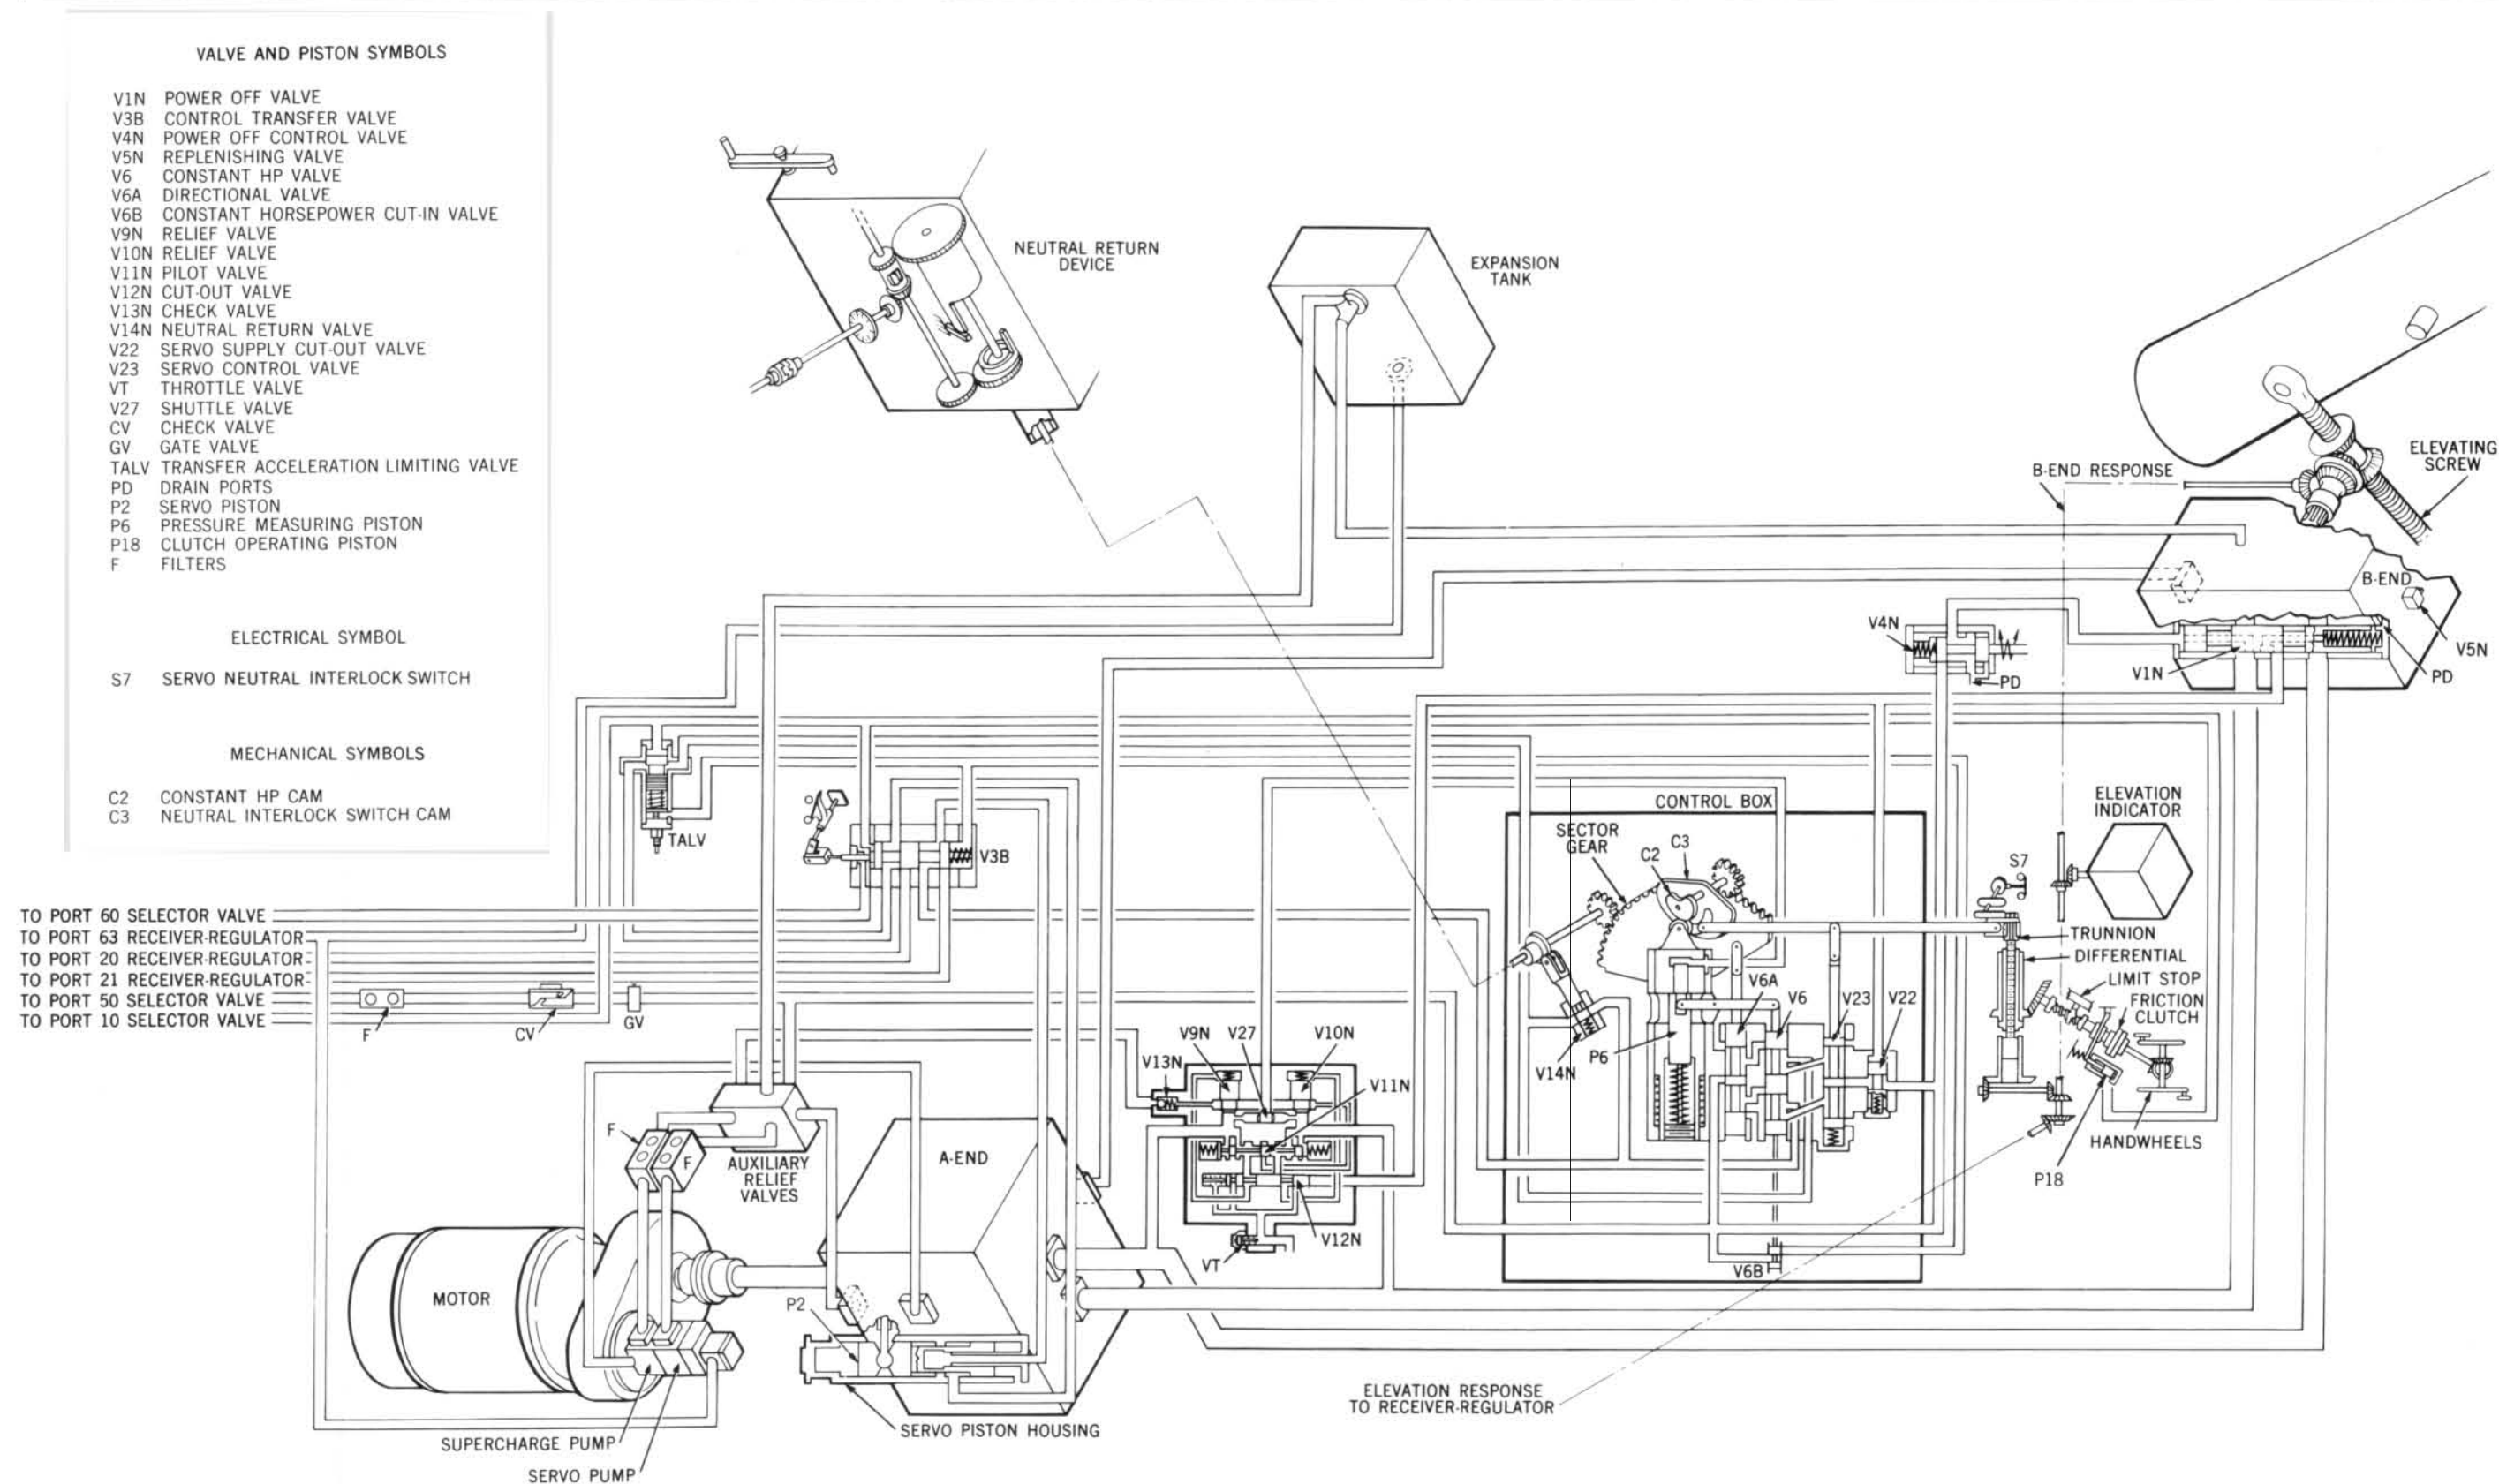

Figure 5-24. Elevating Gear Transmission Control Diagram.
1. V4N (fig. 5-24) is moved by its spring to port the pressure above power-off valve V1N to drain.